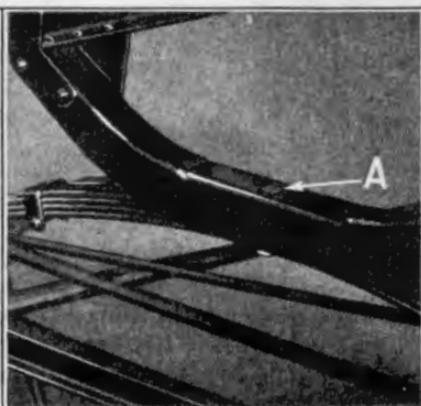

Fig. 63
- 63 **Connect frame to front axle assembly**—Position frame on front axle assembly, making sure that head of tie bolt (See "A" Fig. 63) enters hole in cross member.